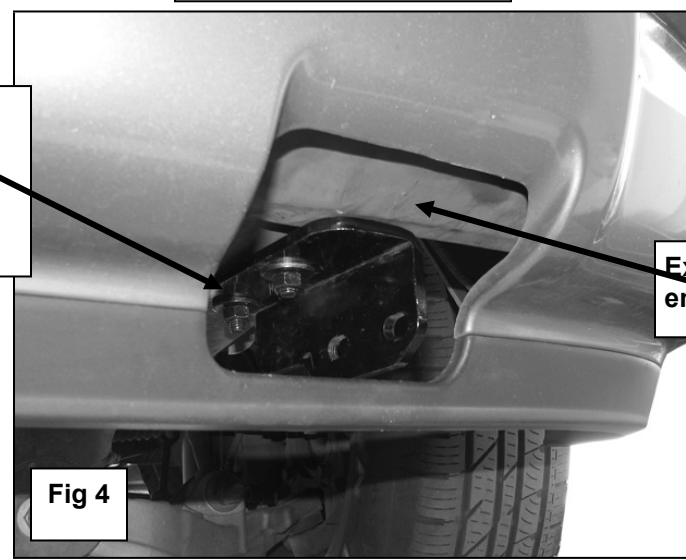

Fig 4
Starting on the driver side of the vehicle, locate the two holes on the bottom of the frame. Insert (1) 10mm U-Bolt into one hole and out the other, **(Figure 3A & 3B)**. Hold the driver side Mounting Bracket in position with the slotted end toward the rear. Secure the Mounting Bracket to the U-Bolt with (2) 10mm x 27mm OD x 3 mm Flat Washers, (2) 10mm Lock Washers and (2) 10mm Hex Nuts, **(Figure 4)**. Snug but do not tighten the hardware.